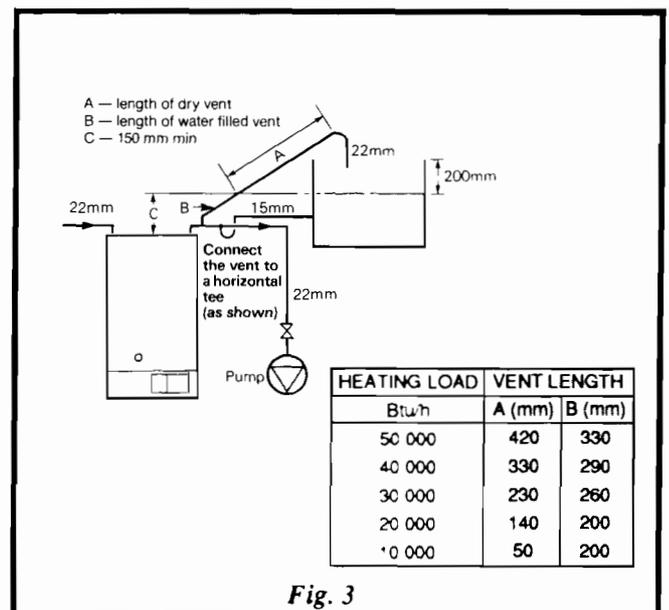

Fig. 3
b. Length of wet and dry vents for close coupled cold feed - see Fig. 3.